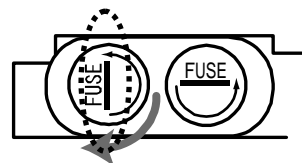

Fig.7-5
6. When installing fuse holder, use a flat-blade screw driver. When pushing the fuse, keep the fuse holder slit to be vertical to the amplifier unit (Fig.7-5, dotted line), and then press deeply and turn clockwise by 90 degree.